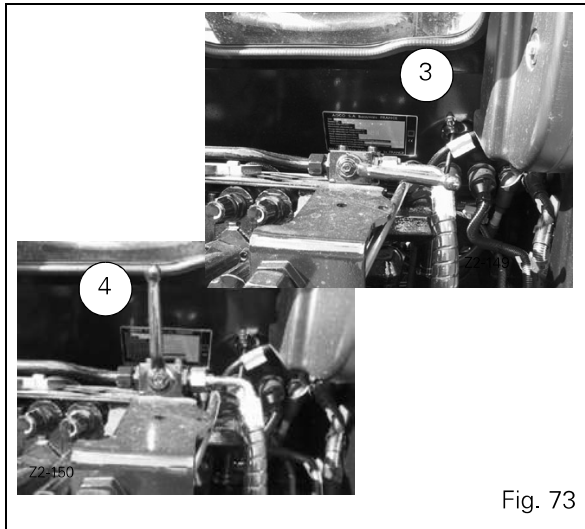

Fig. 73
NOTE: After retracting the hook ram, close the valves ref. 4 again (Fig. 73) to allow normal use of the auxiliary spool valve.